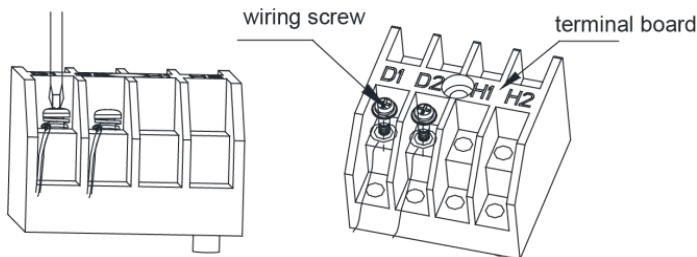

Fig.5.3.1
- 3) Connect the communication wire to terminal D1 and D2 of indoor 4-bit wiring board, as shown in fig.5.3.1.